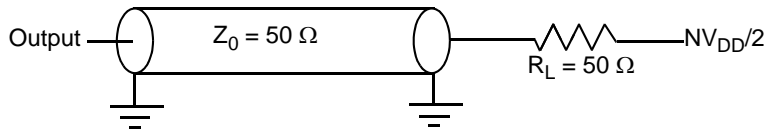

Figure 40. AC Test Load for the JTAG Interface
- All outputs are measured from the midpoint voltage of the falling/rising edge of t_{CLK} to the midpoint of the signal in question. The output timings are measured at the pins. All output timings assume a purely resistive 50-Ω load (see Figure 40). Time-of-flight delays must be added for trace lengths, vias, and connectors in the system.
- The symbols used for timing specifications follow the pattern of $t_{\text{(first two letters of functional block)(signal)(state) (reference)(state)}}$ for inputs and $t_{\text{(first two letters of functional block)(reference)(state)(signal)(state)}}$ for outputs. For example, t_{JTDVKH} symbolizes JTAG device timing (JT) with respect to the time data input signals (D) reaching the valid state (V) relative to the t_{JTG} clock reference (K) going to the high (H) state or setup time. Also, t_{JTDXKH} symbolizes JTAG timing (JT) with respect to the time data input signals (D) went invalid (X) relative to the t_{JTG} clock reference (K) going to the high (H) state. Note that, in general, the clock reference symbol representation is based on three letters representing the clock of a particular functional. For rise and fall times, the latter convention is used with the appropriate letter: R (rise) or F (fall).